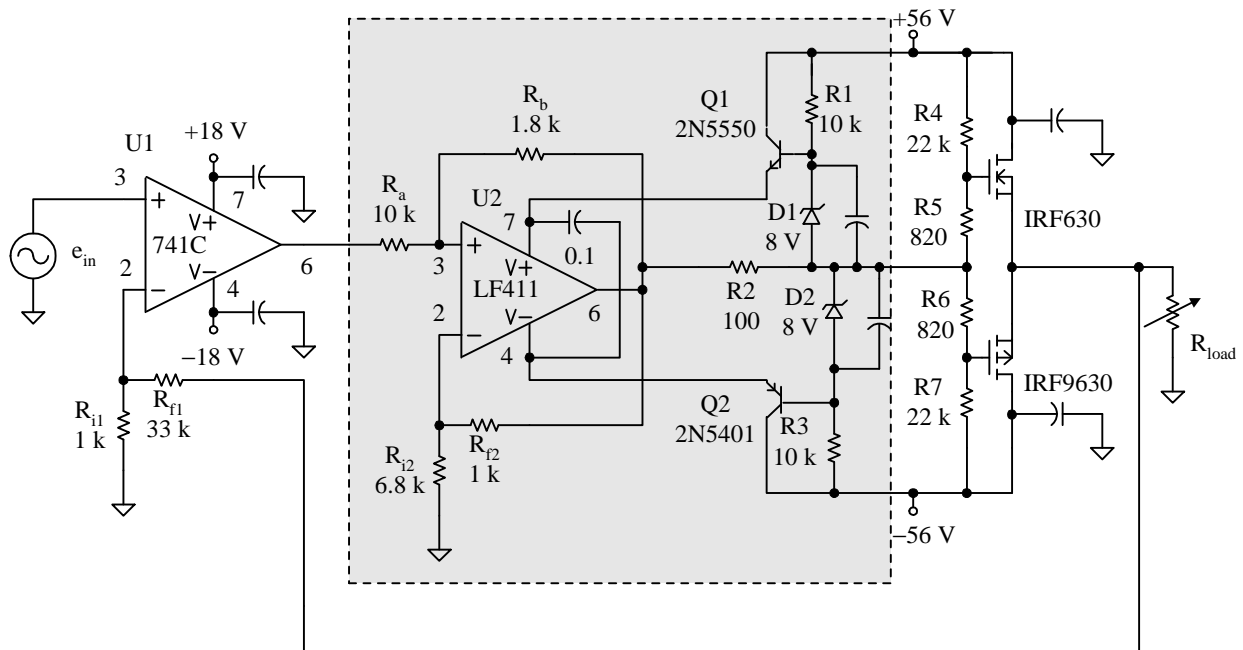

Figure 5-33 Three-stage push-pull amplifier
1. Build the circuit in Figure 5-33. Neatness counts. Carefully follow the steps from Chapter 2.